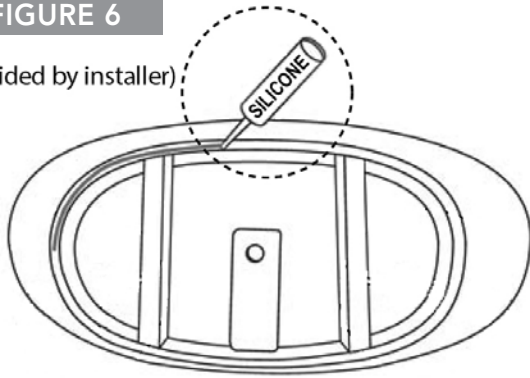

FIGURE 7
- 15 Carefully set tub into position (Figure 7) and connect the drain hardware (previously installed).